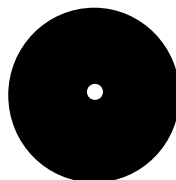

Figure 4-2. Initial Adjustment Pattern
(4) Turn the SWEEP RANGE control to 15.
(5) Turn the SWEEP VERNIER to its minimum setting. The spot will start at the left side of the screen and move slowly-across to the right. As it completes its course to the right side of the screen, it will be seen to start again almost immediately at the left side of the screen.
(6) Gradually increase the setting of the SWEEP VERNIER control. The spot first blends into a flicking trace as the frequency is increased. As the SWEEP VERNIER is advanced farther, the rate of flicker increases until a solid, unflickering straight line finally appears on the screen.
e. USE OF X GAIN CONTROL.-The X GAIN control was used in preceding steps for adjusting the length of the line generated by the sweep generator. When this control is at zero, a spot will appear at the center of the screen (figure 4-2). As the control is advanced toward maximum, the length of the horizontal trace is simultaneously increased.
(1) STEPS FOR USING INTERNAL SYNCHRONIZATION. (See figures 4-2, 4-3, and 4-4.)